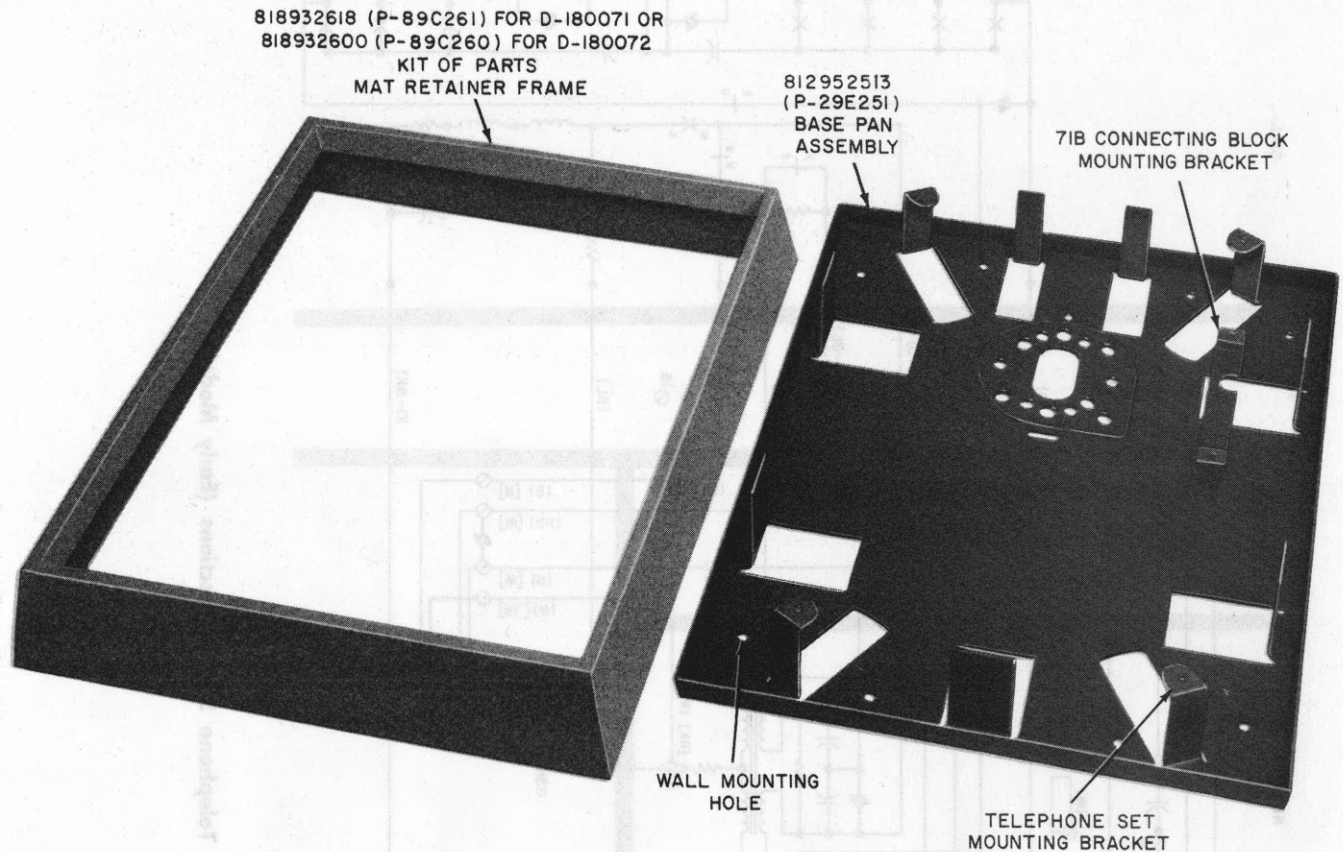

Fig. 5—D-180071 or D-180072 Kit of Parts for Surface Mounting
- (1) The D-180071 (light gray frame) or D-180072 (light beige frame) Kit of Parts, (Fig. 5), ordered separately, permits mounting these sets on the surface of a wall.
- (2) The base pan assembly is arranged for mounting on a 63-type, KS-19407L1 (MD), or KS-20502L2 bracket, or a standard electrical outlet box.